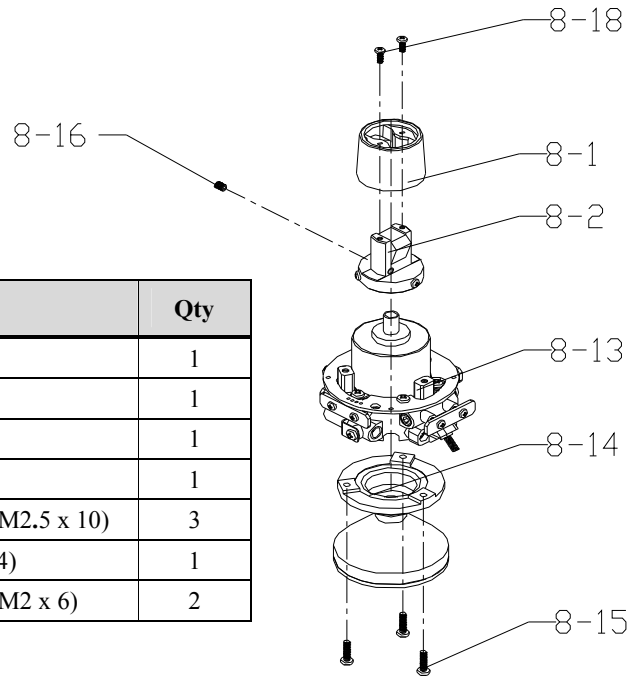

Figure 8
3. Using a Phillips screwdriver to screw off the 3 crosshead plate screws M2.5×10 (8-15#), and disassemble the pendulum parts (8-14#) as shown in figure 8.